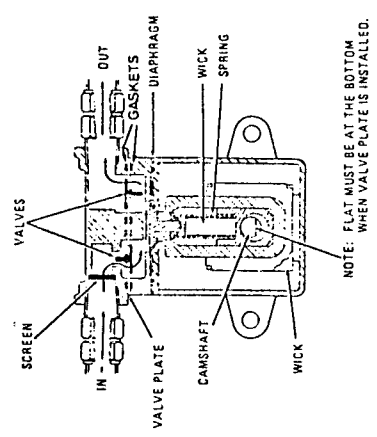

Figure 1. Cross Section of Fuel Pump showing proper valve installation.
b. Refer to Figure 1, Fuel Pump cross-section, and rotate the cam shaft until the flat on the shaft is facing away from the cover and toward the bottom of the pump. Refer to note above and install the new valve plate (valves installed) and four gaskets from the kit. Two gaskets are assembled in the cover and two in the diaphragm head.